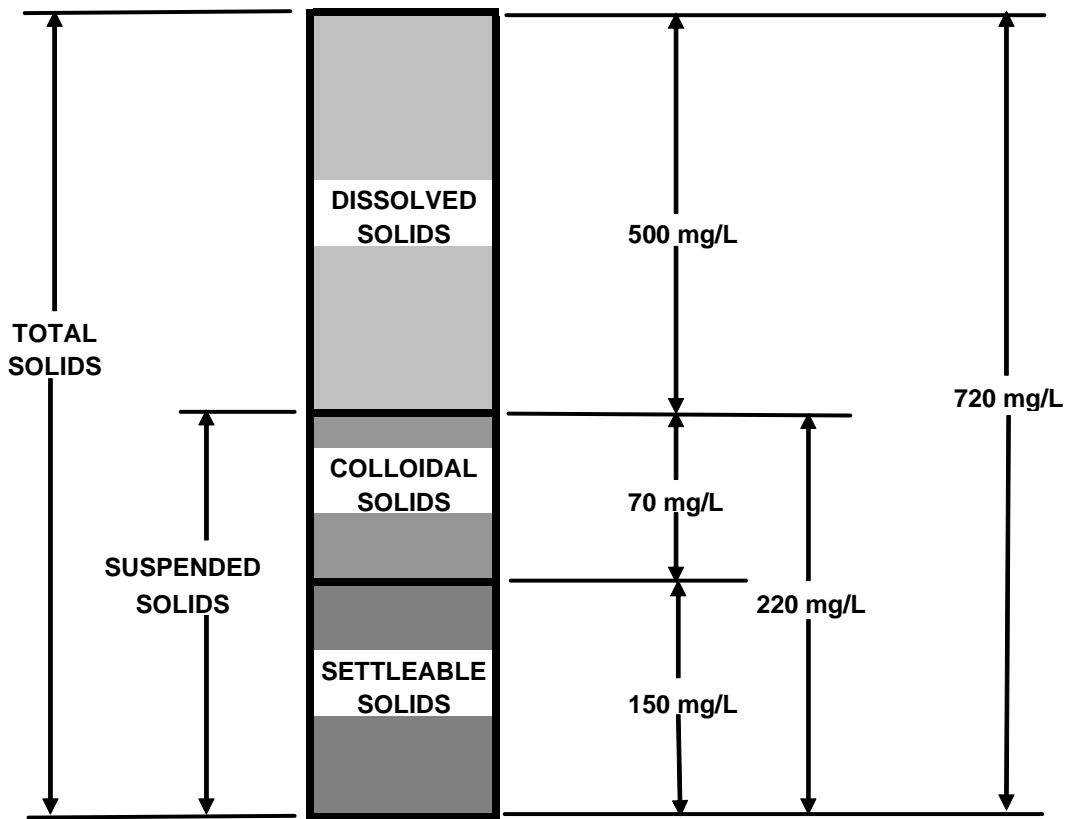

Figure 2.1 Typical solids concentrations in raw wastewater.
- Suspended solids include nonsettleable (shown in Figure 2.1 above as colloidal) and settleable materials.
- Total solids concentration in Figure 2.1 is 720mg/L.
- Dissolved solids concentration in Figure 2.1 is 500mg/L.
- Suspended solids concentration in Figure 2.1 is 220 mg/L.
- Nonsettleable solids concentration in Figure 2.1 is 70 mg/L